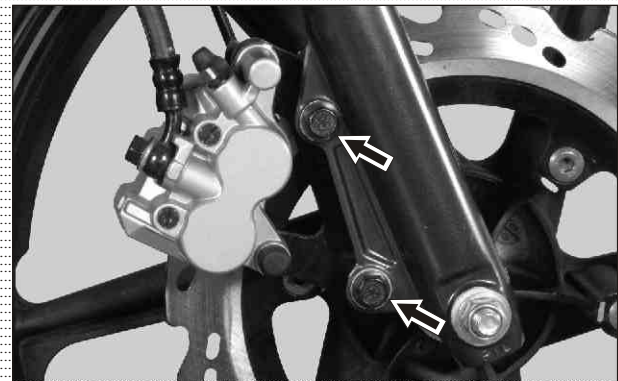

Fig. 2.66
- Remove caliper mounting bolts and take out the caliper. (Fig. 2.66)